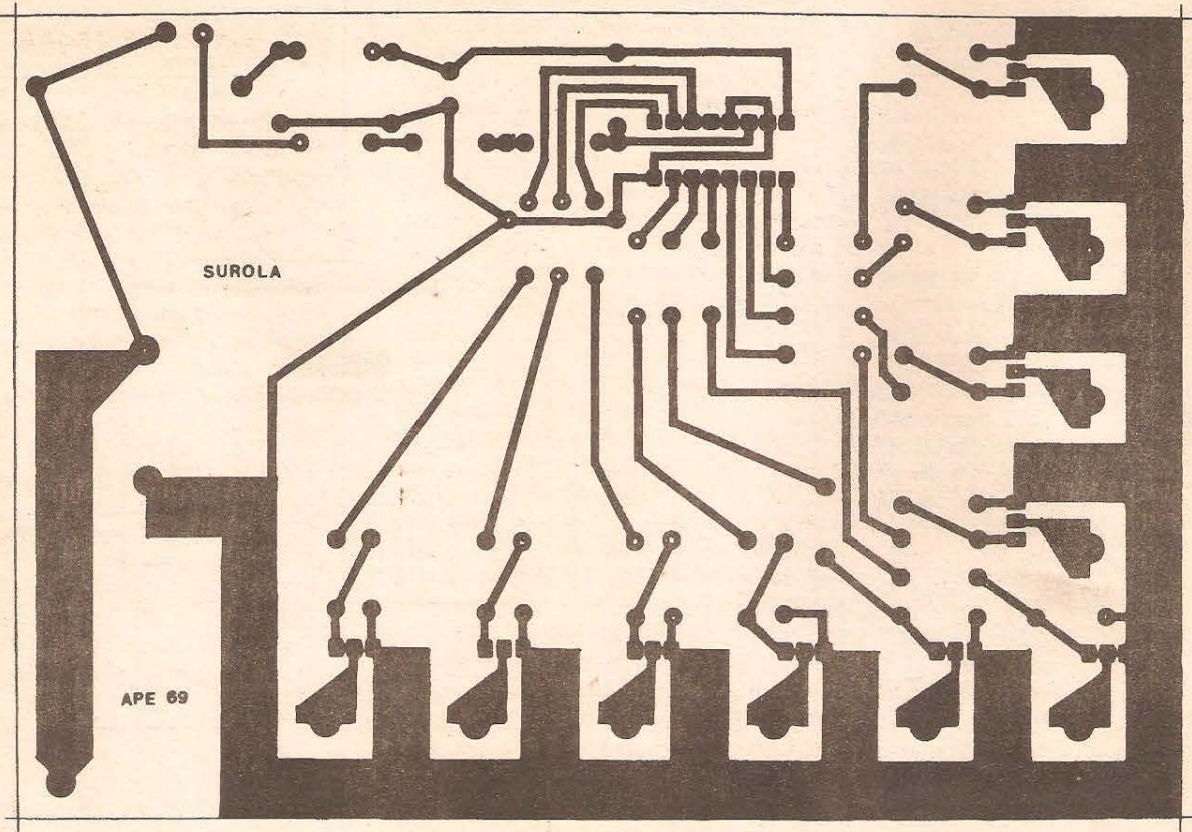

Fig.2
- FIG. 2 - LAY OUT DO CIRCUITO IMPRESSO ESPECÍFICO